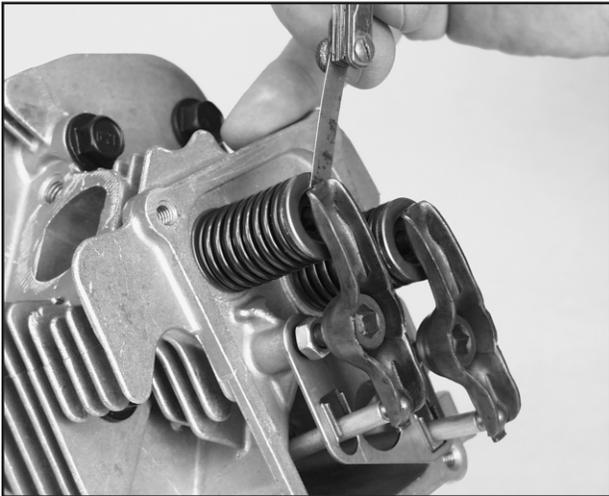

Figure 9.16 — Adjusting Valve Clearance
1. Loosen the rocker arm jam nut. Use an allen wrench to turn the pivot ball stud while checking the clearance between the rocker arm and valve stem with a feeler gauge (see Figure 9.16).